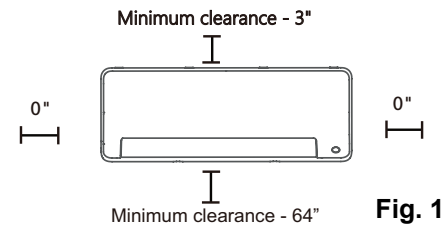
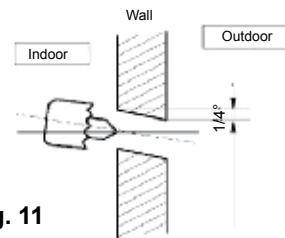
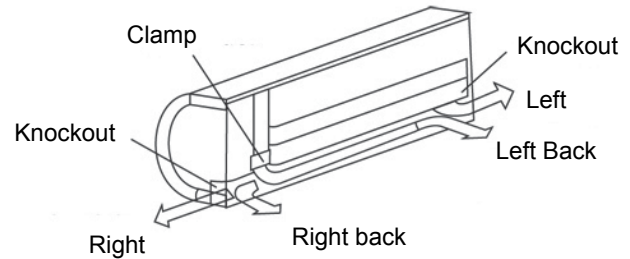

Fig. 1
Fig. 11
Fig. 14
- Unit must be installed in a location that does not obstruct the flow of air and ensures clearances are maintained. (Fig. 1)
- The indoor unit should be mounted high up on the wall toward the ceiling, leaving a minimum of 6" (150mm) of space between the ceiling and the top of the indoor unit. (Fig. 1)
- B. Mount the wall bracket flush on structural parts (studs) of the wall with proper unit clearances in consideration. (Fig. 1 and Fig. 9)
- A. Determine hole position according to the wall bracket that comes with your unit, the unit's required clearances (Fig. 1) and which direction (left/right) the lines will be routed from the back of your unit (Fig. 14). Drill 2.5" (65mm) hole angled downward (approx. 1/4") toward the outdoors. (Fig. 11).
- A. Remove the knockout from the desired side of the unit that the line set will be routed from. The lines from the unit can be routed either left or right, left back or right back (Fig. 14).
- B. Remove the clamp (Fig. 14) before attempting to bend the line set to prevent kinks. The clamp may be replaced and used to hold the line set in place, but this depends on the routing direction of the line set and whether it is needed, taking into account the line's bend radius.